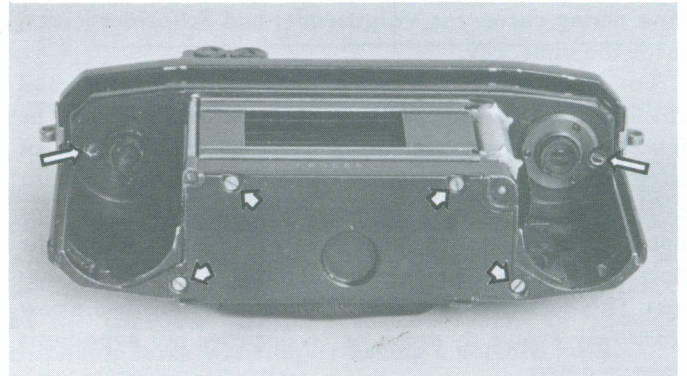

Figure 2.
3. Since the back of the camera has already been removed, unscrew the four nicked screws that hold the bottom metal cover in place and remove it. (See Figure 2.)
5. Now remove the two black screws pointing upwards in the inner part of both film chambers (See Figure 2). Lift the camera chassis (with winding mechanism, shutter and range-viewfinder) out of the camera housing.